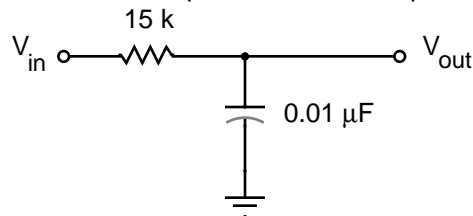
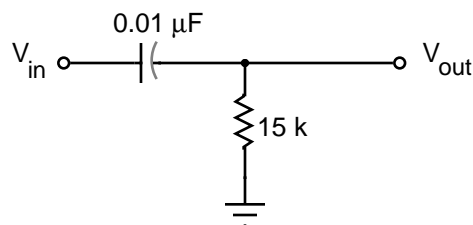

Fig. 2.1
Fig. 2.3
a) Construct the filter of Fig. 2.1. Drive it with a sine wave and measure the attenuation V_{out}/V_{in} as a function of frequency. Check to see if the filter attenuates 6dB/octave for frequencies well above the -3dB point (or simply the 3dB point). Measure the resistor's value and use the attenuation curve to calculate the capacitance and compare with its nominal value.
- a) Use the frequency-sweep method to display the attenuation of the high-pass filter in Fig. 2.3 as a function of frequency and take a picture. Carefully examine the response at very low frequencies by manually changing the frequency.
a) Apply a 100 kHz square wave signal to the low-pass filter of Fig. 2.1 and explain the output wave form. Apply a 100 Hz square wave to the high-pass filter of Fig 2.3 and explain the output.
4. For the circuit of Fig. 2.1 plot graphs of $\frac{|V_{out}|}{|V_{in}|}$ vs. frequency